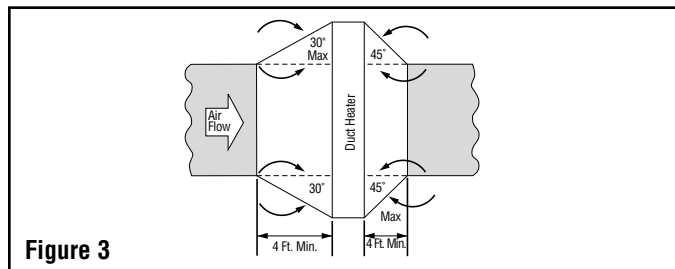

Figure 3
- The slope of the transformation piece on the upstream side of the equipment is limited to 30° as indicated in Figure 3. On the leaving side, the slope should not be more than 45°.